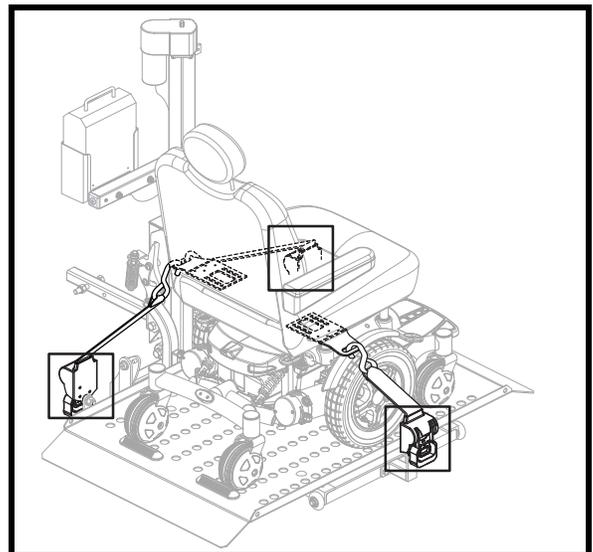

Figure 14. Retractable Tie-down Strap Securement
- Pull the strap out and secure it to the chair restraint tab. See figure 14.